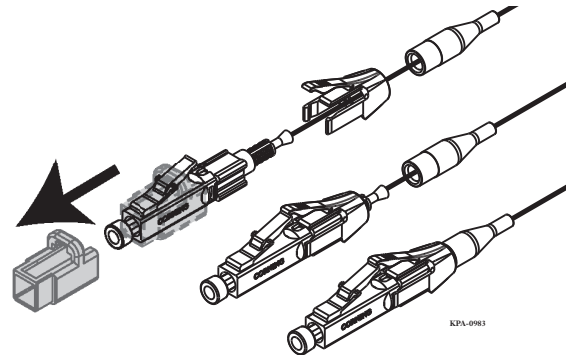

Figure 49 — LC Connector Completed Assembly
- Step 1:** Ensure the clear ferrule dust cap is installed (Figure 49).